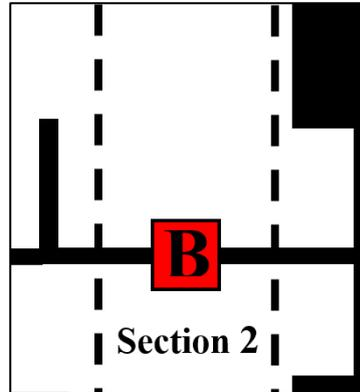

Figure 4: Position of the payload
1. Section 2 consists with a straight line where coloured payload is placed on the line. **Red box with the letter “B”** in the **Figure 4** illustrate the position of the payload.